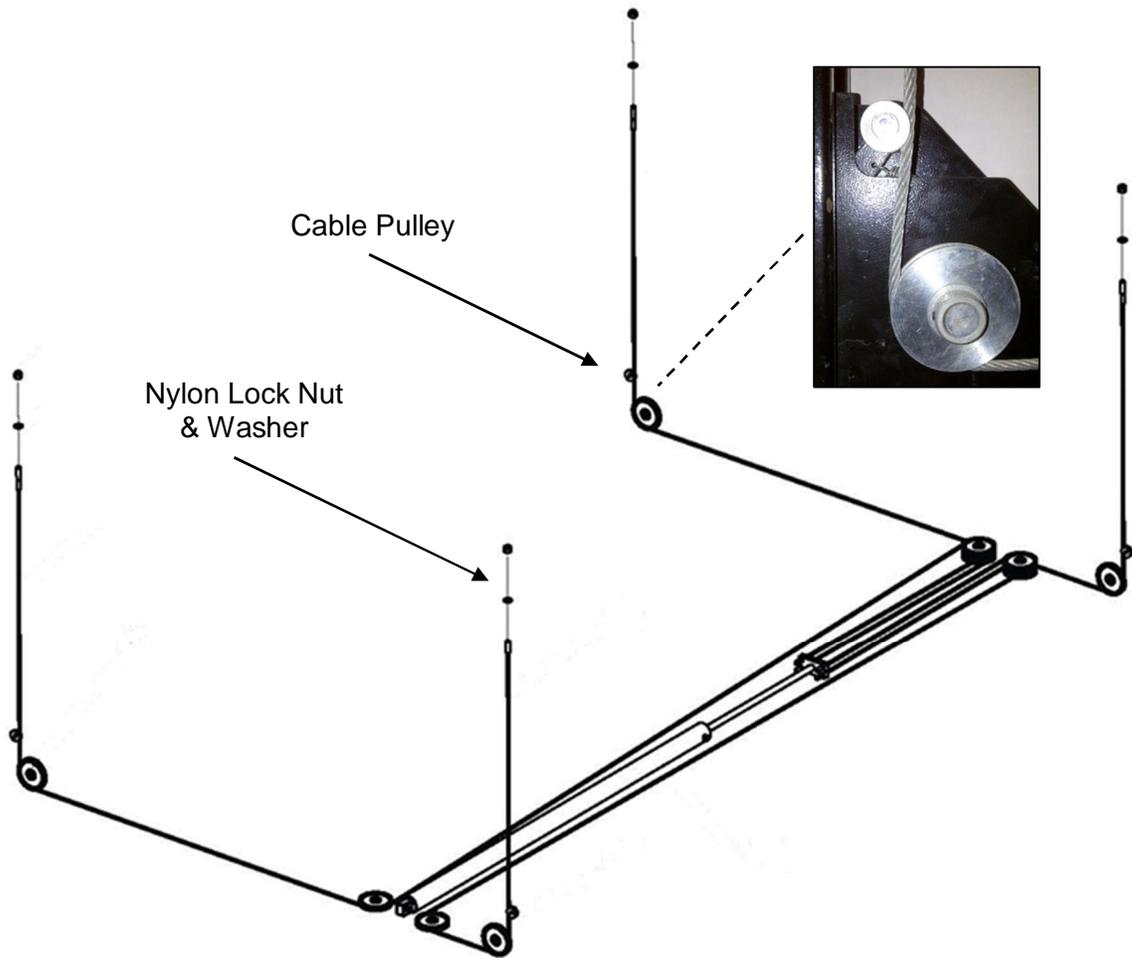

Fig. 6
17. Pull the slack for each Cable from the corner ends of the Mainside Runway and route the appropriate Cable(s) to each Column Top Caps, while ensuring that the Crossbeam Cable Pulley is between the Cable and the Lock Ladder as shown in Fig.6. This will allow the secondary Slack Cable Lock to function properly. See Fig.6 below for Cable routing installation.
27. Raise lift off all locks until cables are supporting the lift. Adjust the Cable's Nylon Lock Nut (#89) as shown in Fig 6, located on the top of each post until lift is level on crossbeams and runways. This will ensure the lift travels up and down level.